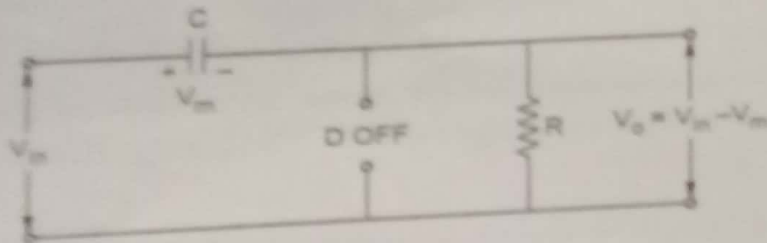

Fig. Q.49.3
- As input voltage decreases after attaining its maximum value V_m , the capacitor remains charged to V_m and the diode D becomes reverse biased as shown in the Fig. Q.49.3.